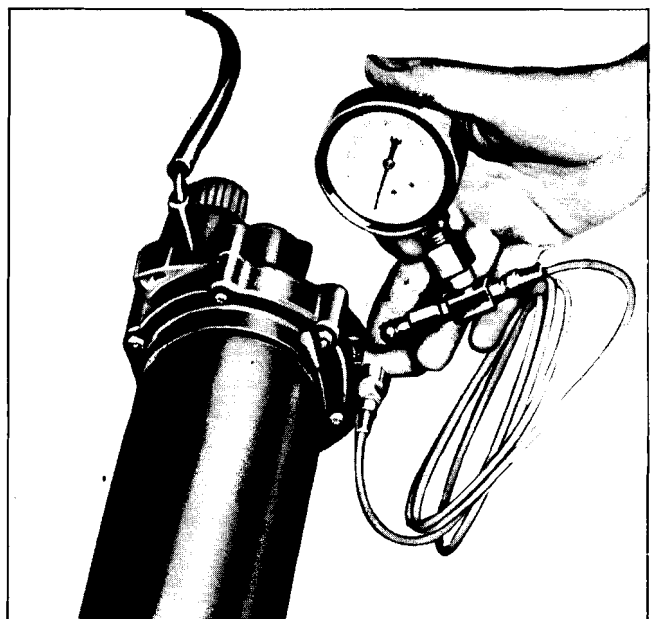

Fig. 4-1 Test Gage Installed on Regulator Valve
2. Remove high pressure line at regulator and connect test gage (Fig. 4-1).
2. Install test gage on regulator valve high pressure fitting (Fig. 4-1).